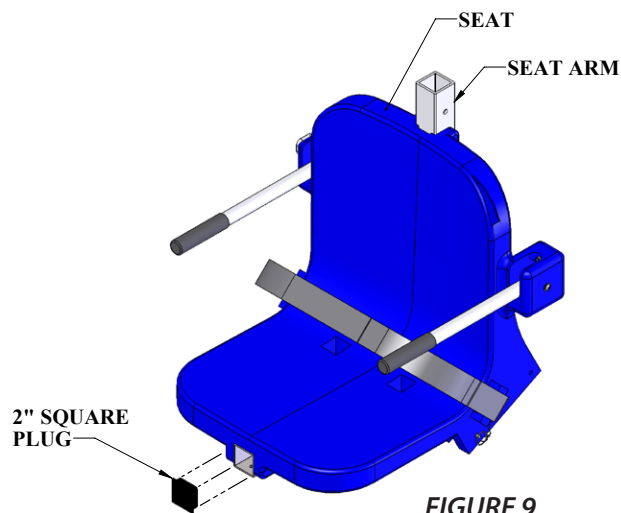

FIGURE 9
1. With a flat-blade screwdriver, pry off the 2" square plug from the end of the 2" square tube of the seat arm. *SEE FIGURE 9.*